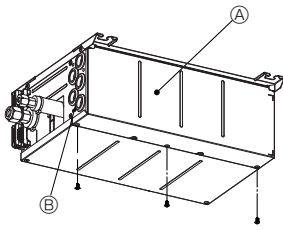
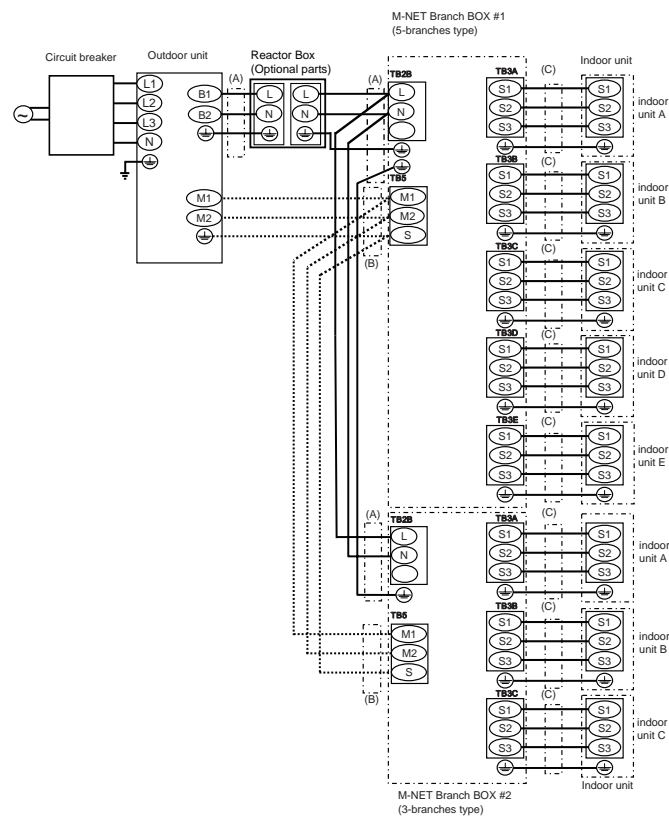

Fig. 8-1
Fig. 8-8
- (1) Remove the electric cover. (Fig. 8-1)
- (2) Pass the wiring into the branch box each wire in place with a wiring clamp.
- (3) Firmly connect each wire to the appropriate terminal block. (Fig. 8-8)
- (4) Set dip sw. (Refer to 8.3)
- (5) Replace the electric cover.
8.2. External wiring procedure (Fig. 8-8)